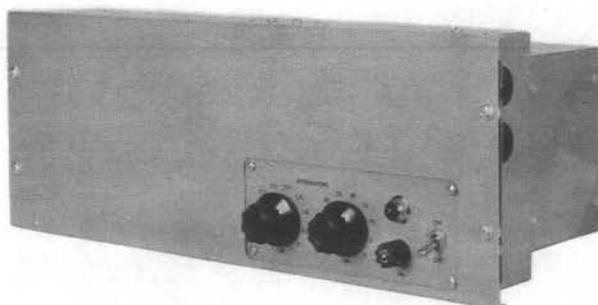

Fig. 1 - Front View
**1.04** The KS-16575-L1 amplifier may be mounted in a 19-inch relay rack or cabinet. The amplifier is 19 inches wide, 7 inches deep (behind the mounting surface) and 7 inches high. The amplifier is shown in Figs. 1 and 2. On the front side of the chassis and extending through the cover panel are an "ON-OFF" power switch, a pilot light, the gain controls and fuse holder. The amplifier weighs 33 pounds. The amplifier is finished in light gray.